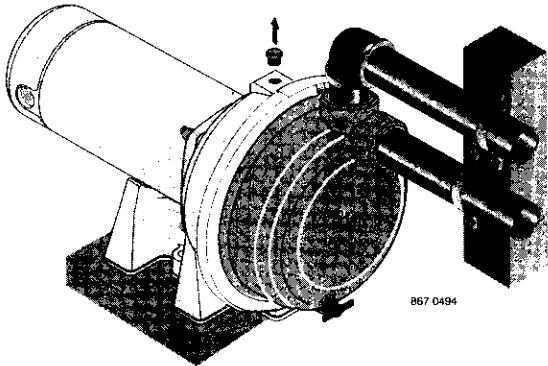

Figure 7 – Remove Priming Plug
1. Remove priming plug (Figure 7).